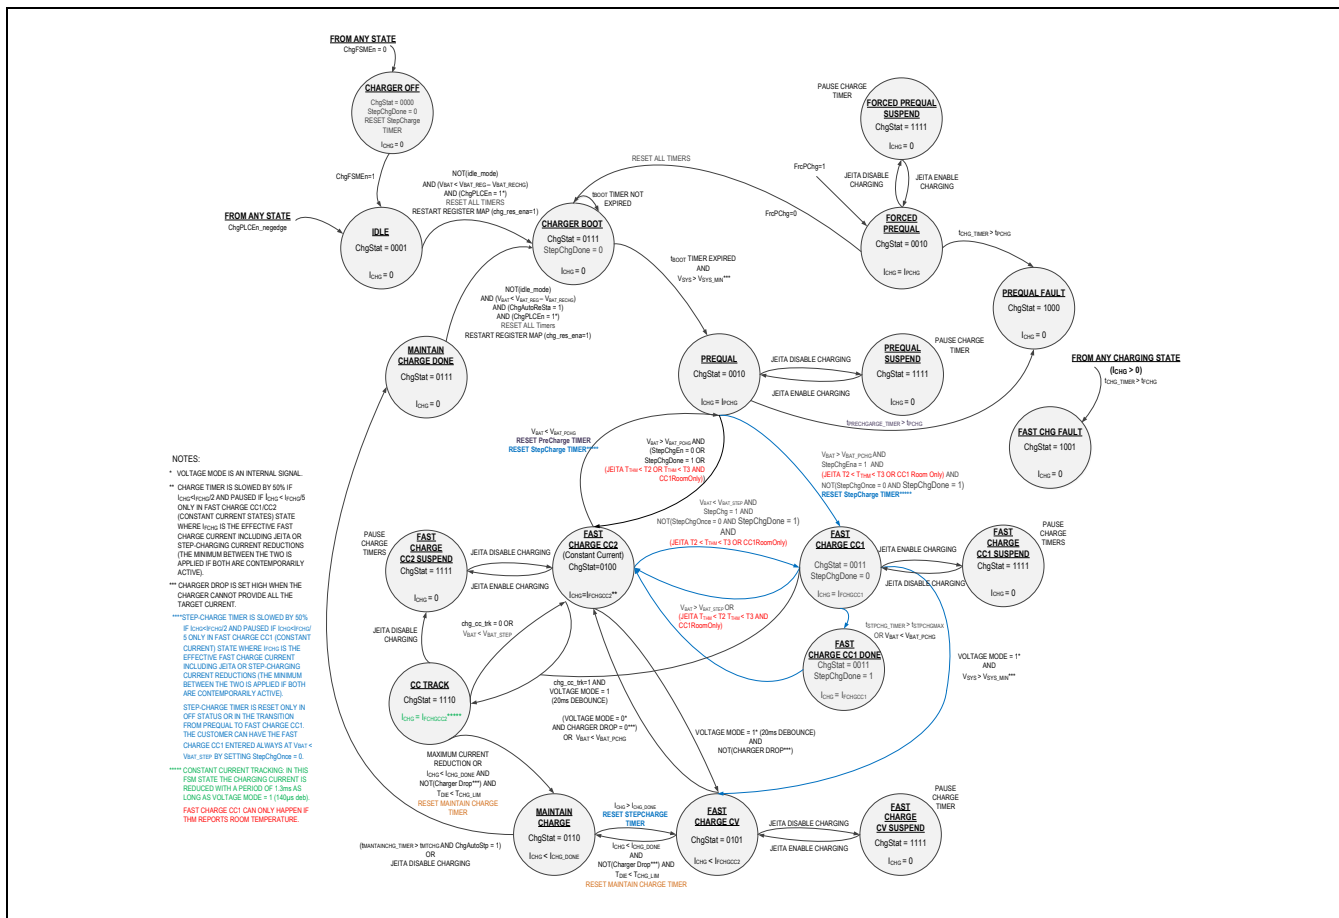

Figure 14. Battery Charger FSM Diagram
There are also independently programmable temperature thresholds, which allow the user to select in which temperature ranges precharge, CC1, CC2 and battery regulation voltage may operate. Different JEITA compliant temperature operation strategy is I²C programmable. Timeout function for precharge, CC1 and full charge cycle is also designed to prevent overcharge of the battery. Detailed charger operation is shown in Figure 14.
As shown in Figure 14, when PLC connection is not established, power is not applied from the MAX20355. The MAX20357 charger is in **Charger Off** state (ChgStat = 0b0000). After MAX20357 detects PLC connection, buck-boost voltage is applied to PLC pin, chn_con_sts status is set to 1 and chn_con_int interrupt is asserted at the first telemetry PING, signaling PLC connection is established. Charger transitions from **Charger Off** state to **Charger IDLE** state (ChgStat = 0b0001).
As shown in Figure 14, the following events cause the charger to enter **Charger IDLE** state.
As shown in Figure 14, the charger enters the precharge state (`ChgStat = 0b0010`) after charger boot sequence is completed and SYS pin voltage is regulated higher than or equal to minimum system voltage `SysMin`. If battery voltage is lower than `VPChg` or `FrcPChg = 1`, the charger remains in precharge state. In the precharge state, the battery charging current is `IPChg`.
As shown in Figure 14, if CC track is disabled, charger enters **Fast-Charge Constant Voltage (CV)** state when the battery voltage is close to top-off voltage BatReg. In the **CV** state, the charger regulates the battery voltage at BatReg and the charge current decreases from CC2IFChg as the battery voltage increases. Battery regulation voltage can be less than BatReg due to temperature. See the JEITA Compliance section for JEITA reduction of battery regulation voltage.
If the charger drop-out voltage drops down to the programmable threshold PLC_DROP, charger current is actively reduced to maintain the charger input and output voltage difference $V_{\text{PLC}} - V_{\text{BAT}}$ at PLC_DROP. As shown in Figure 14, when charger current is being actively reduced, some charger state transitions are unavailable.